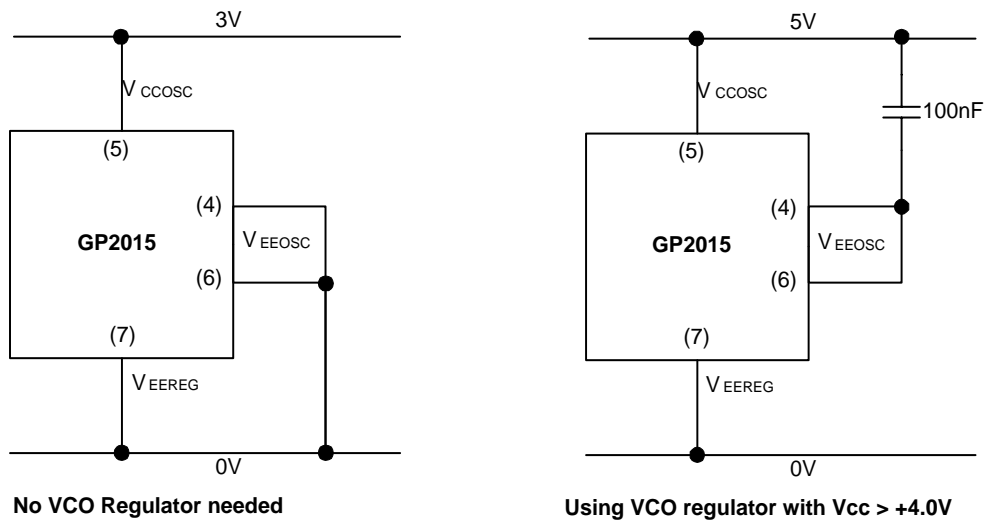

Figure 7 - VCO power-supply connections
- Both pins 4 & 6 ( $V_{EE}$  (OSC)) are connected internally. If the VCO regulator is used ( $V_{CC} = +5.00V$  nominal) then both pins 4 & 6 must be left floating, with either pin de-coupled to  $V_{CC}$  (OSC) with a 100nF capacitor. In this configuration, the dc output level of the regulator can be monitored from  $V_{EE}$  (OSC), with respect to  $V_{CC}$  (OSC) - NOT 0V ( $V_{EE}$ /GND). For operation at  $V_{CC} < +4.0V$ , the VCO regulator cannot be used, and both  $V_{EE}$  (OSC) pins must be shorted to  $V_{EE}$  (REG) (Pin 7) - see Fig. 7.